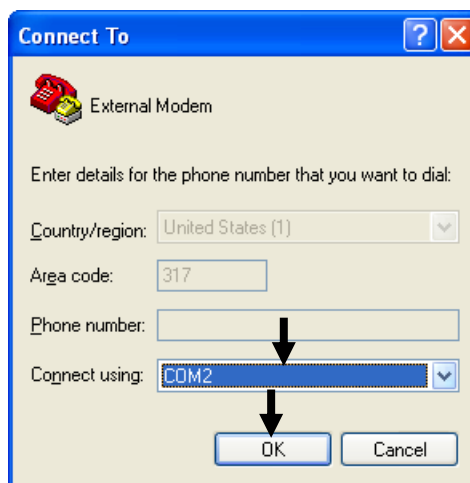

Fig. 5.4
- 5) On the next screen, use the drop down box next to “**Connect using:**” to choose the serial port on your PC that the Lantronix Device is currently connected to (Fig. 5.4). This is *usually* COM 1 or COM 2, but may be different depending on the configuration of the PC being used.